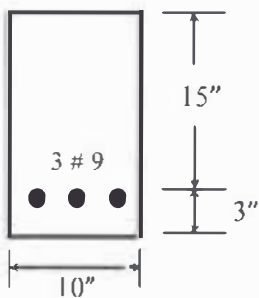

Figure 1
b) Calculate the ACI design moment capacity  $\phi M_n$  for the beam with necessary checks for Figure 1 [15]